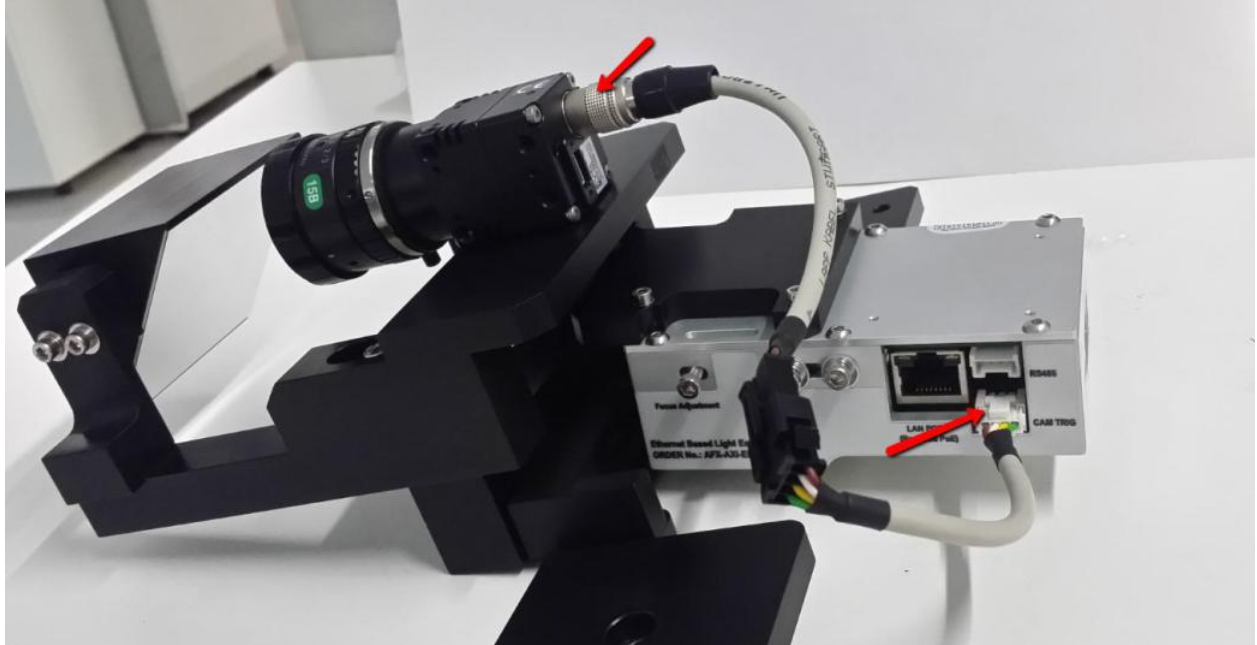

Figure 1 Triggering cable removal
1. Remove the Triggering cable as below Figure 1.